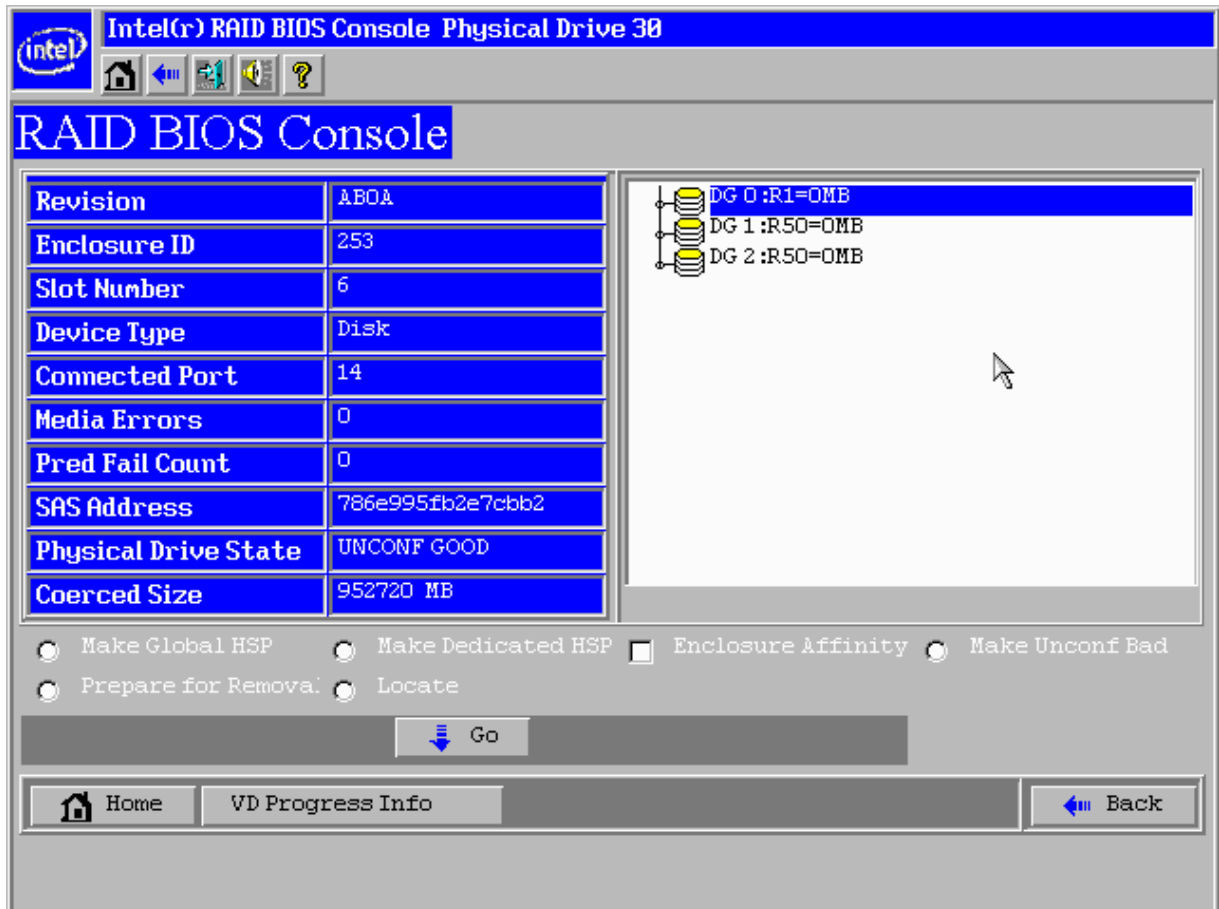

Figure 37. RAID BIOS Console Physical Drive Screen – Making Global HSP
31. On the next screen (see Figure 37), select **Make Global HSP** and click **Go** to continue.